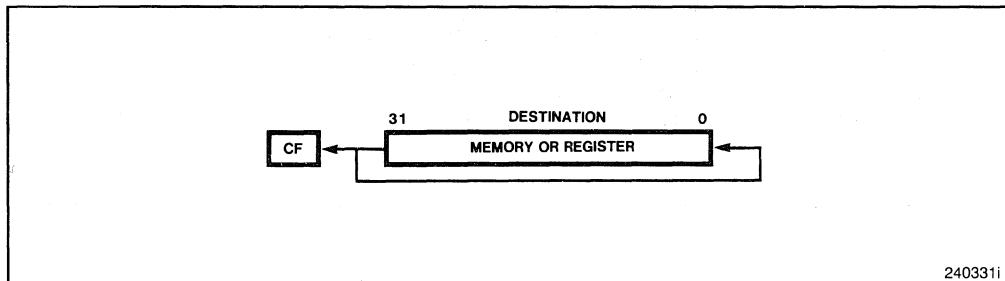

Figure 3-11. ROL Instruction
**ROL (Rotate Left)** rotates the byte, word, or doubleword destination operand left by one bit position or by the number of bits specified in the count operand (an immediate value or a value contained in the CL register). For each bit position of the rotation, the bit which exits from the left of the operand returns at the right. See Figure 3-11.